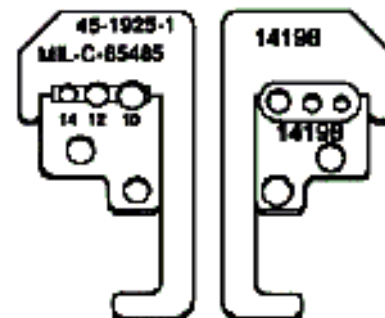
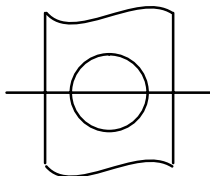

Figure 3. Preferred Wire Stripper Blade Profile.
Figure 4. Acceptable Wire Stripper Blade Cavity Is Cylindrical and Forms a Complete Perimeter.
12. The blades of wire stripper tools can have different profiles. The preferred profile is shown in Figure 3. When the wire stripper tool is closed the edges of the blades shall be in the same plane and form a cutting circumference whose diameter is greater than the maximum diameter of the conductor of the wire to be stripped (see Figure 4).